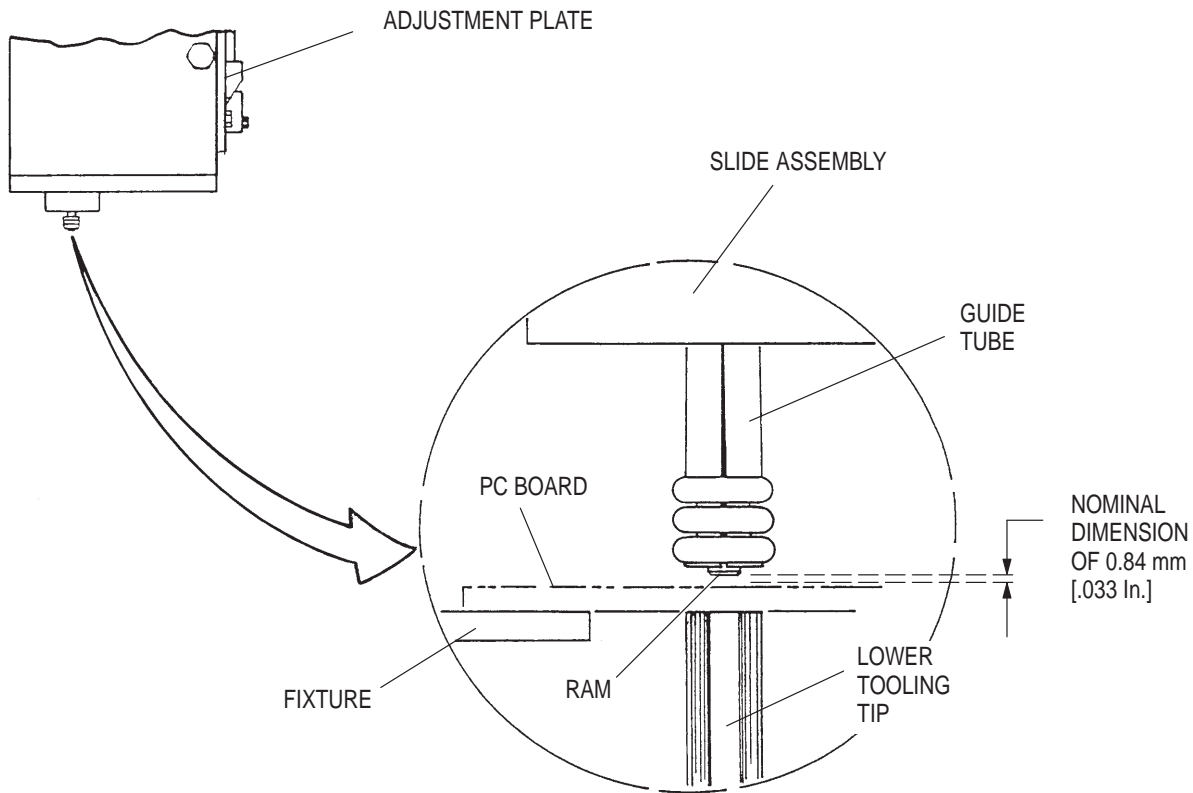

Figure 6-3. Head and Lower Tooling Height Adjustment
6.6. Head Height Adjustment (Figure 6-3)